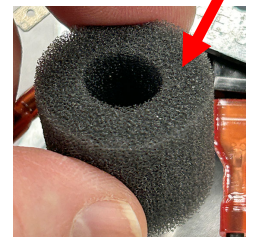

Figure 21
- 26) Slide the foam filter up around the cap screw to remove the filter (see Figure 21).